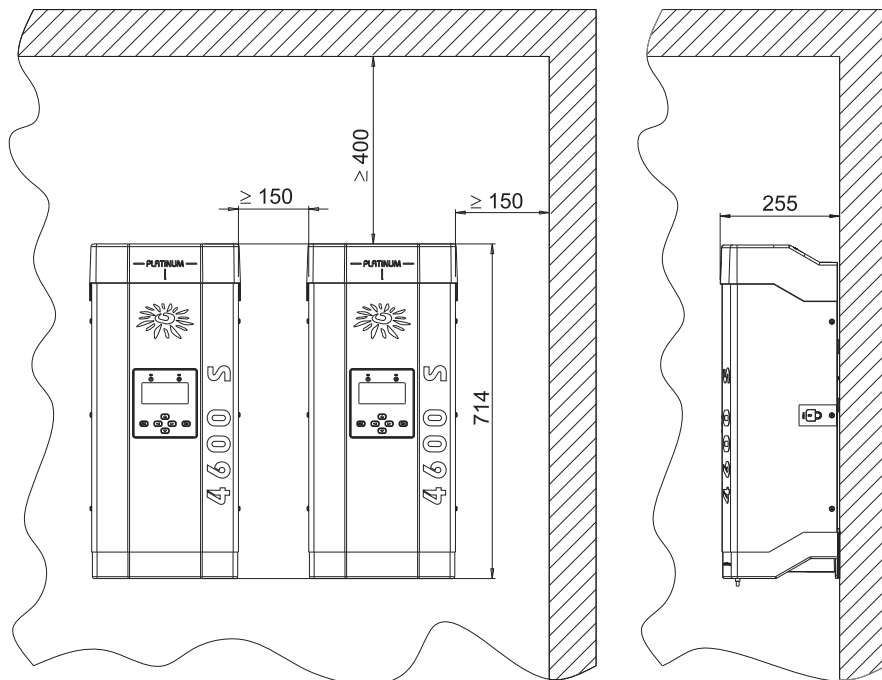

Fig. 2 Spacing between mounted inverters
- Verify that minimum distances are kept (see Fig. 2).